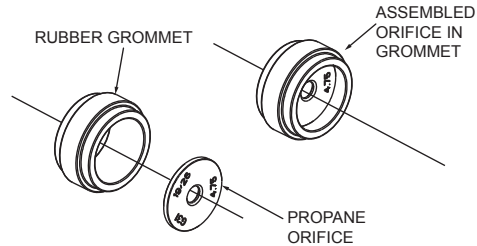

Figure 48. Rubber Seal & Propane Orifice
4. Insert the Propane orifice inside this grommet. There is a thin slot allocated for the orifice to slip into. See Figure 48.